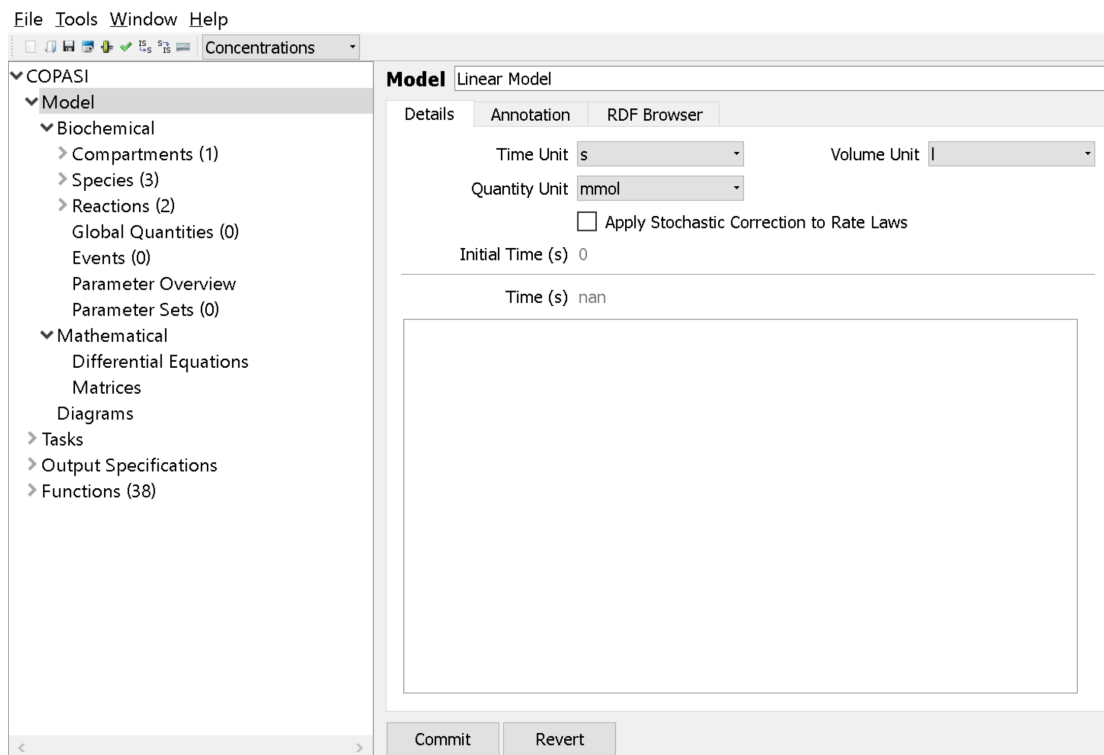

Figure 2: model initial setup
Step 4. Model initial setup-Figure 2